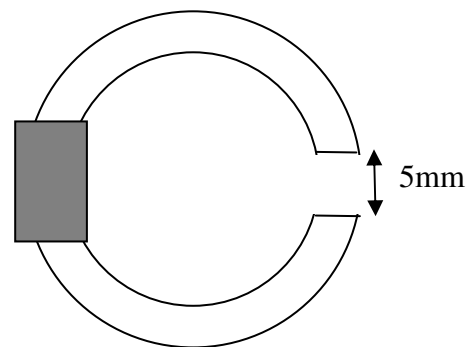

Figure 2.2
- b. If a 5mm wide slot is now cut in the iron toroid to form an airgap as shown in Figure 2.2, find: